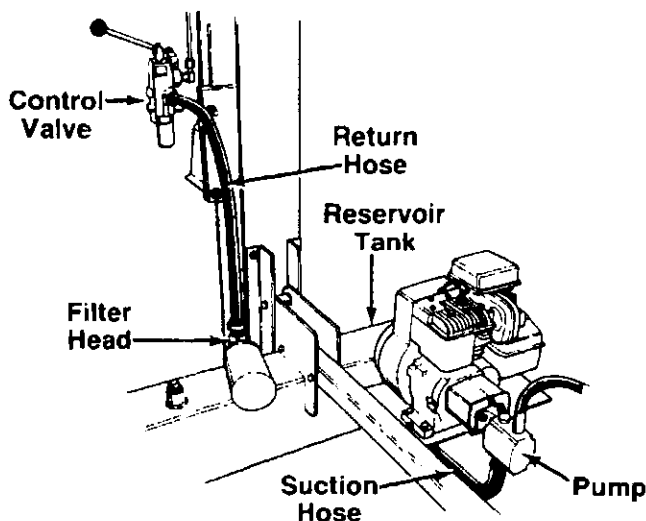

FIGURE 9.
2. Attach the end of the hose to the fitting on the bottom of the pump. See figure 9. Place the hose clamp at the base of the fitting, and tighten securely.
2. Attach the end of the hose to the fitting on top of the filter head. See figure 9. Place the hose clamp at the base of the fitting, and tighten securely.